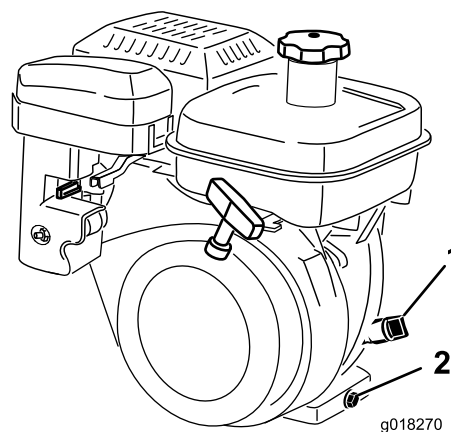

Figure 34
2. Position the machine so that the engine is level, and clean the area around the oil-level gauge (Figure 34).
3. Remove the oil-level dipstick by rotating it counterclockwise (Figure 34).
2. At the rear of the machine, place a drain pan under the drain plug (Figure 34). Loosen the drain plug.